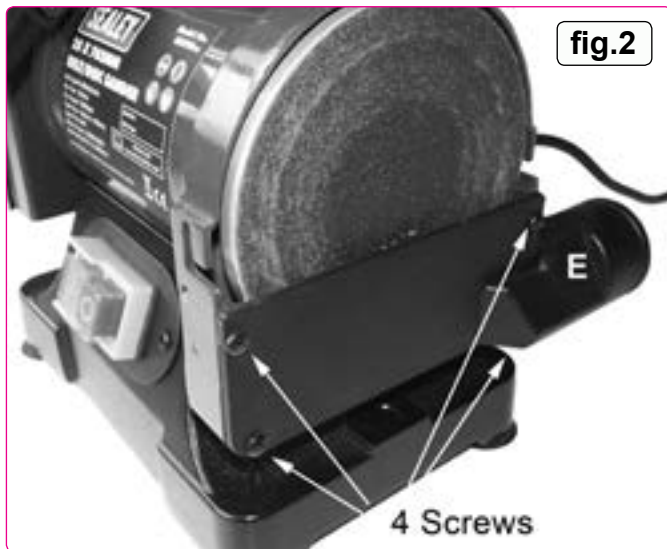

fig.2
- 5.1.1. Attach the dust extractor plate (E) over the lower part of the sanding disc using the four screws provided as shown in fig.2.